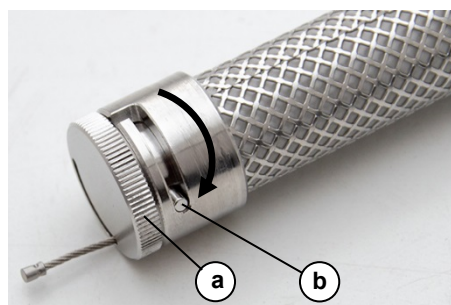

Fig. 2: Cleanfinity filter with bayonet lock
- ▶ When using the Cleanfinity filter, make sure that the sealing cap (Fig. 2, pos. a) on the end of the filter has been closed correctly before inserting it. To do so, slide the sealing cap (pos. a) into the filter to its fullest extent and close the bayonet lock by turning it clockwise (Fig. 2, pos. b) into locking position.